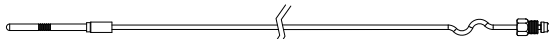

FIGURE 35.
4. Pull the thermocouple from the pilot assembly (Figure 35).